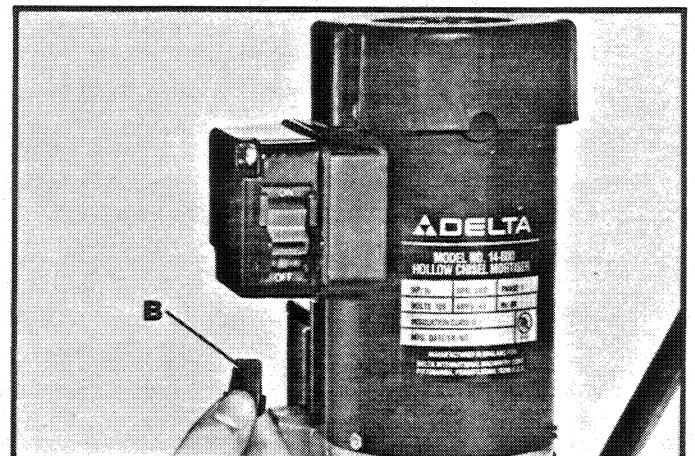

Fig. 20
We suggest that when the mortiser is not in use, the switch be locked in the "OFF" position. This can be done by grasping the switch toggle (B) and pulling it out of the switch, as shown in Fig. 20. With the switch toggle (B) removed, the switch will not operate. However, should the switch toggle be removed while the mortiser is operating, the switch can be turned "OFF" once, but cannot be restarted without inserting the switch toggle (B).